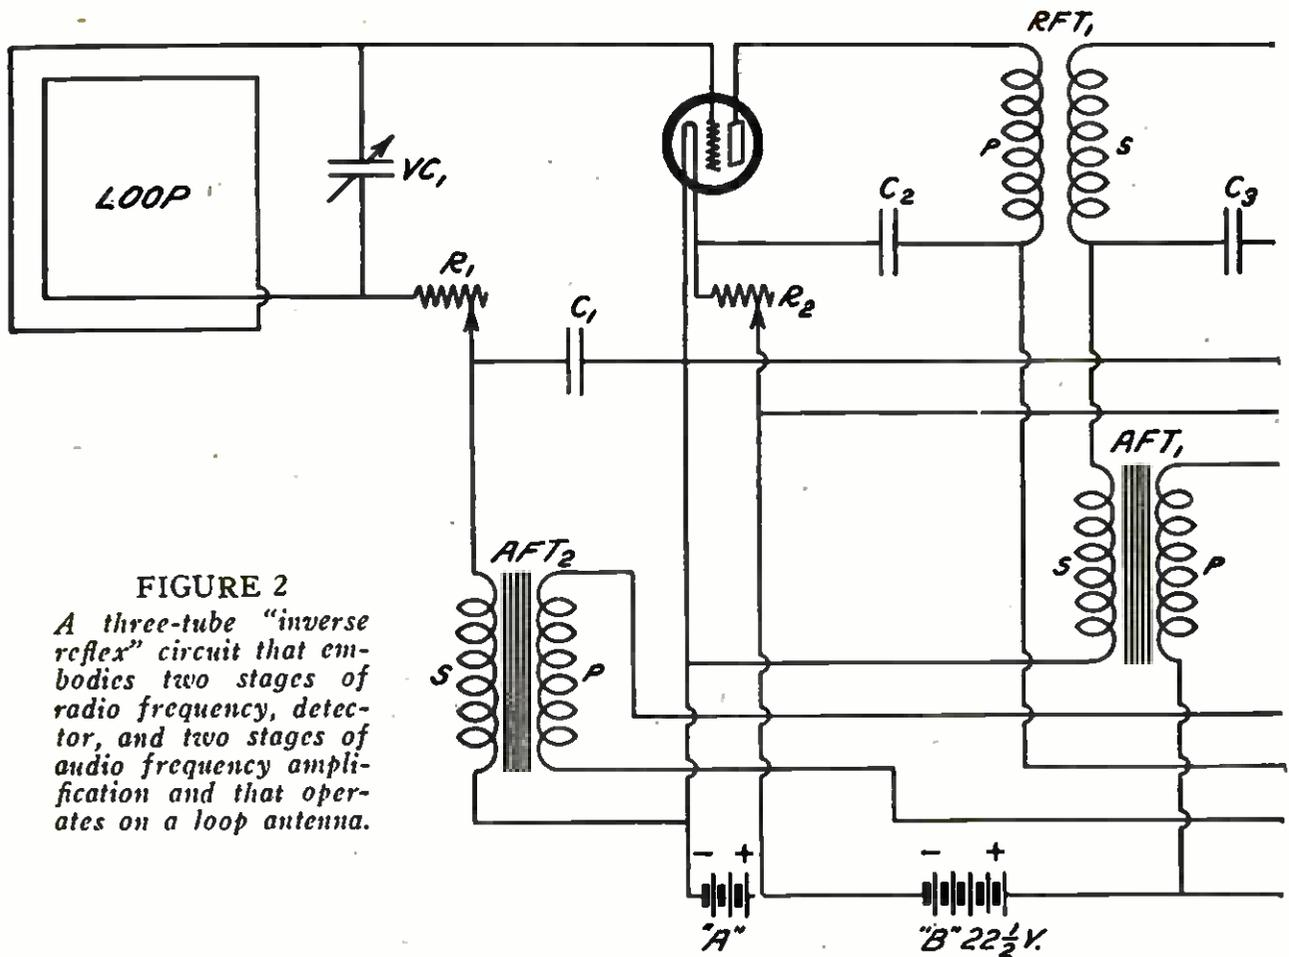

FIGURE 2
**ANSWER:** The circuit you need is given in Figure 2. The designations on this diagram refer to the following parts: